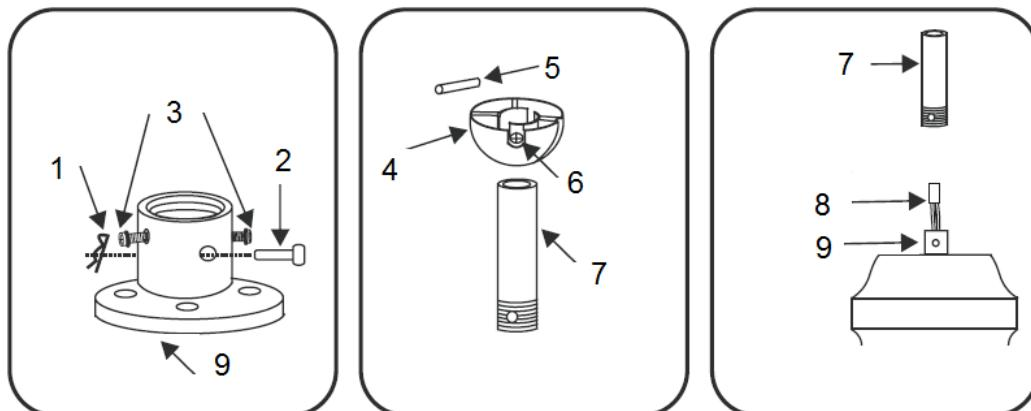

Fig. 4
- Remove the rock pin (2) and hitch pin (1) from the coupling (9) of the motor housing assembly. (Fig.4)
- Loosen the set screws (3) from the coupling (9).
- Remove the ball joint (4) and cross pin (5) from the down rod (7) assembly by loosening the set screw (6). Carefully feed the fan wires (8) through the down rod (7), then thread the rod into the coupling.
- Line up holes and reinstall the rock pin (2) and hitch pin (1). Finally re-tighten the set screws (3).